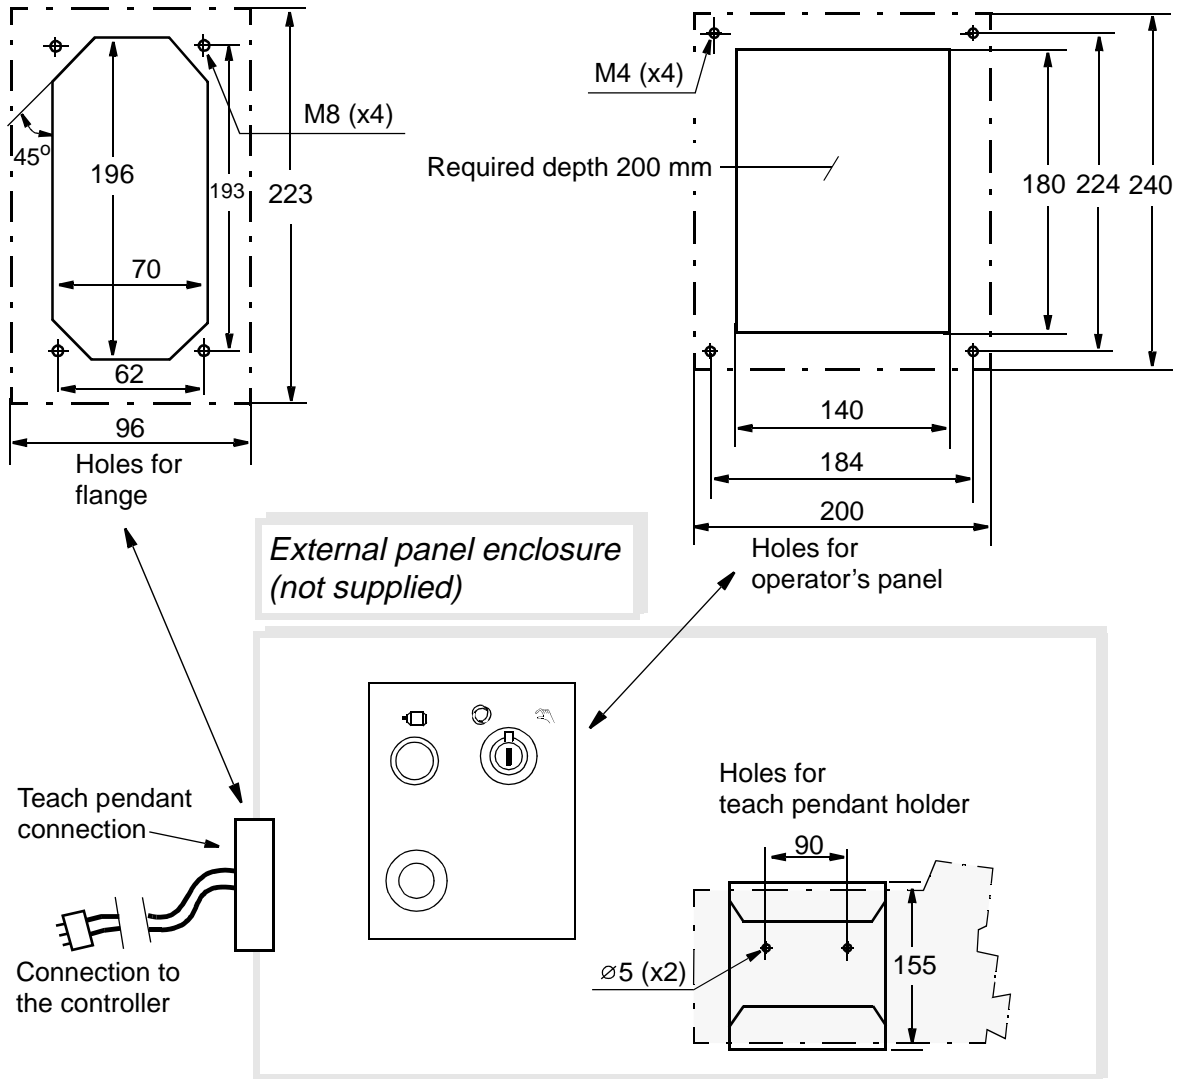

Figure 37 Required preparation of external panel enclosure (all dimensions in mm).
- 182** External, i.e. in a separate operator's unit. (See Figure 37 for required preparation)